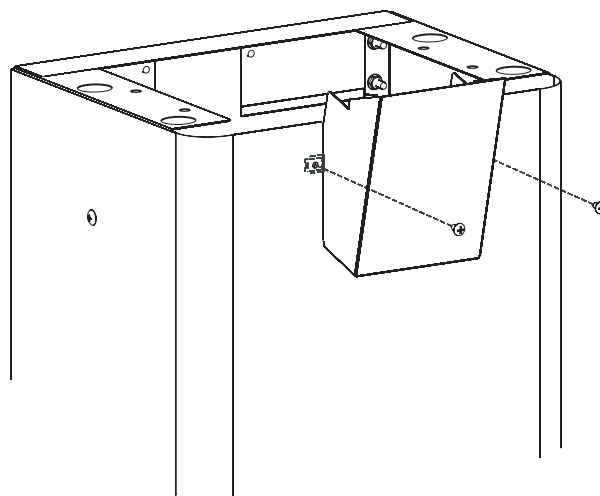

FIGURE 6
Slide the mounting tabs on the control (7) housing behind the opening on the cart. Allow the control housing to rest at bottom of opening on cart. Figure 6.
Align the holes in the front of cart with the nuts on the control housing (with the mounting tabs positioned inside cart) and attach with the two 10-24 x 3/8 phillips head screws. Figure 6.